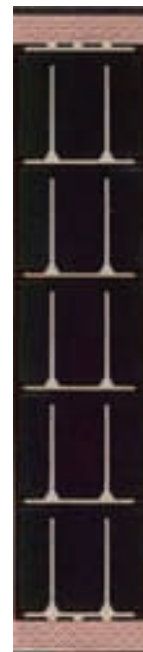

Figure 2
2. Inflate a second long balloon. As you are inflating the balloon, slip heavy-duty rubber bands over the balloon at intervals so that, as inflation continues, the balloon is pinched by the rubber bands. It is easier to accomplish this by preinflating the balloon. It may be necessary to double the rubber band to pinch the balloon enough for the demonstration (see fig. 2).
A number of solar cells electrically connected to each other and mounted in a support structure or frame is called a photovoltaic module (fig. 2). Modules are designed to supply electricity at a certain voltage, such as a common 12-V system. The current produced is directly dependent on how much light strikes the module.